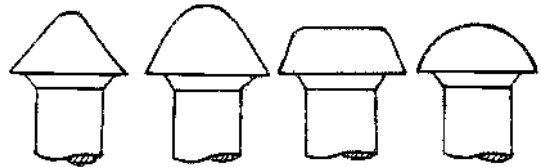

Fig.2.2
5. The boiler rivet heads shown in Fig. 2.2 from left to right are